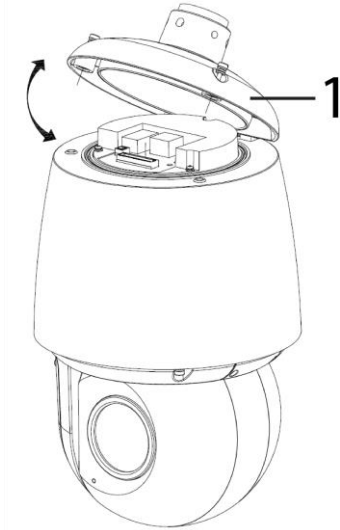

Figure 4
- A. Remove the two screws located on the top cover (1) (Figure 4) to open it.